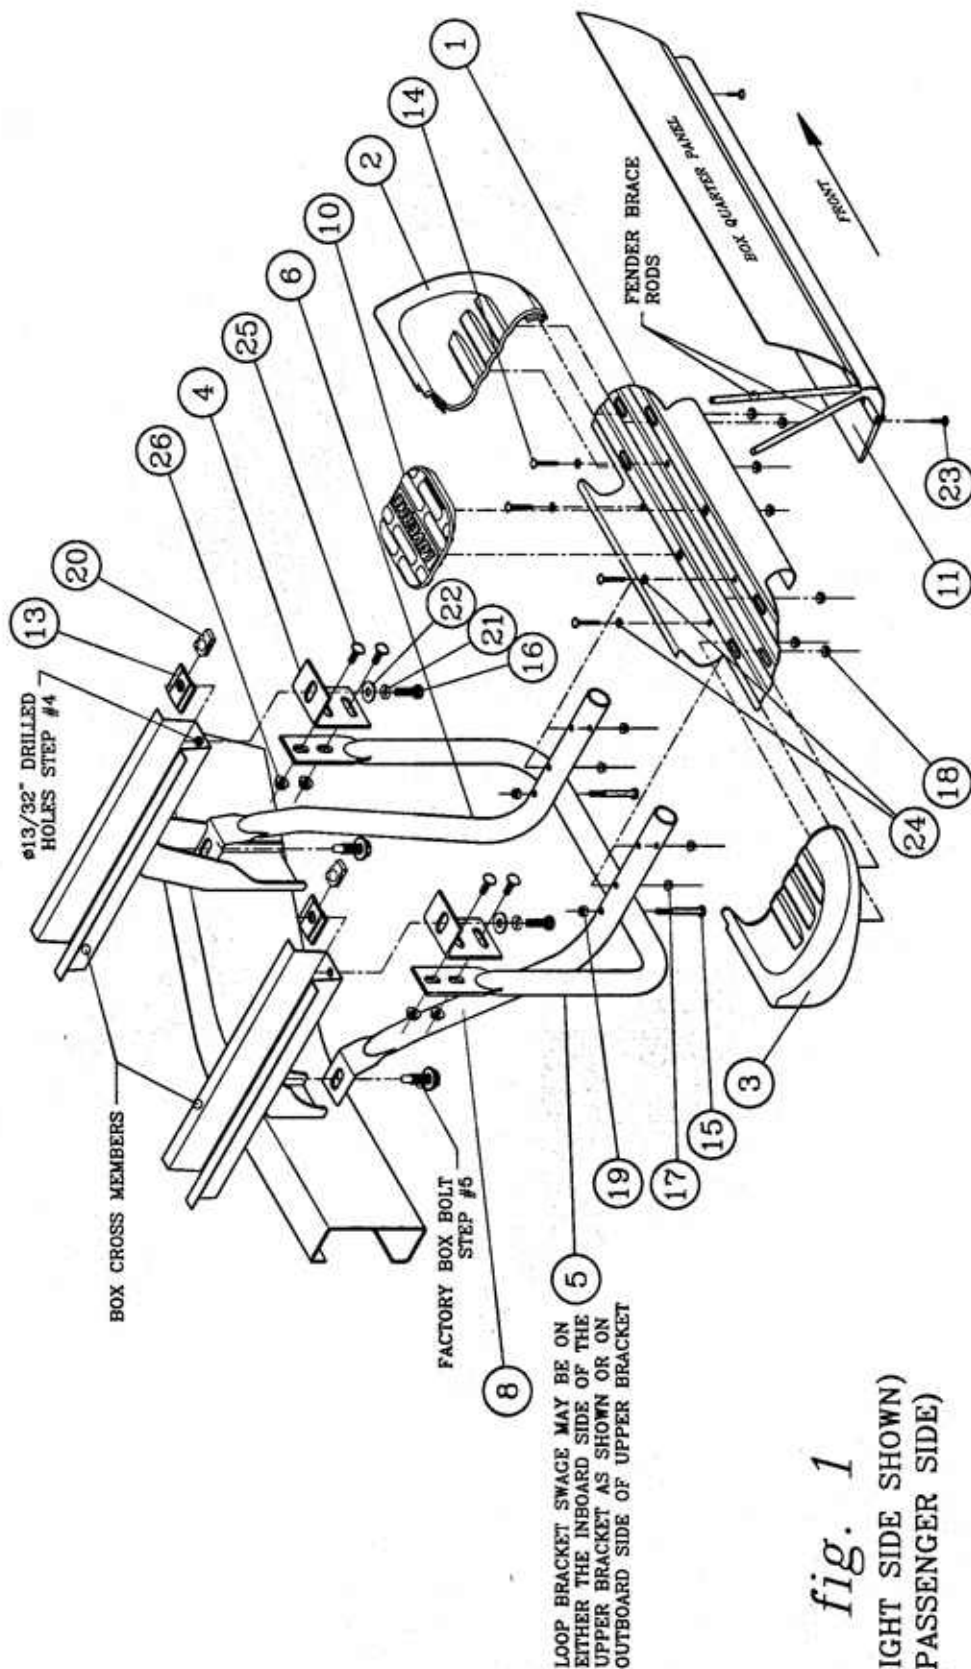
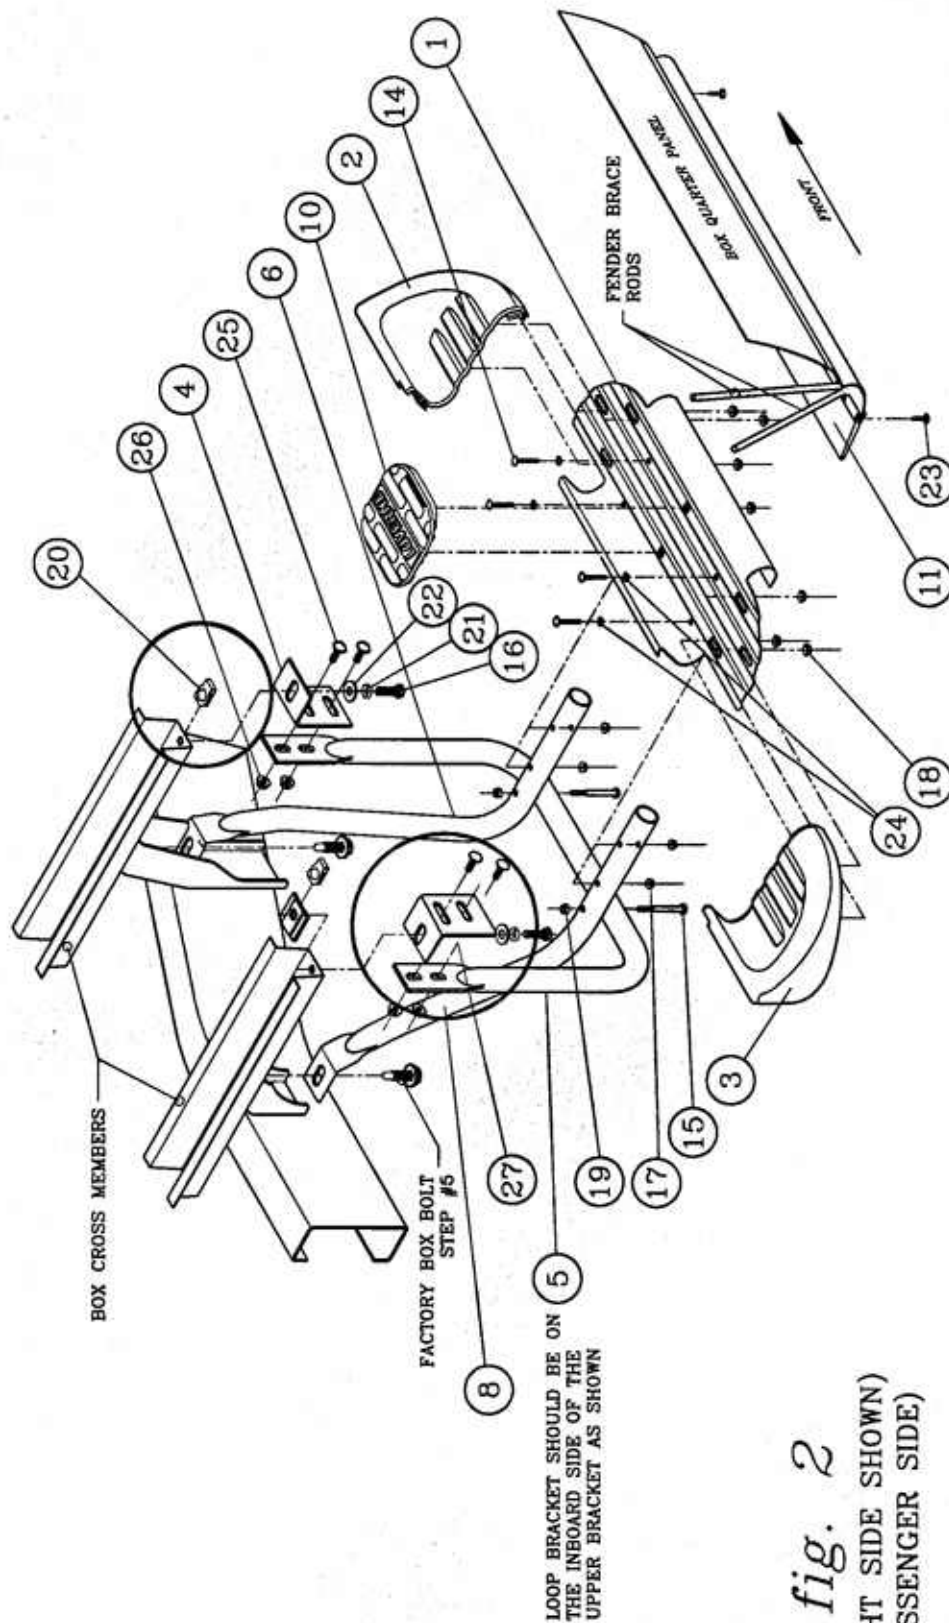

fig. 1
fig. 2
- 3.1 ASSEMBLE THE FRONT AND REAR RIGHT HAND BRACKET TUBES (ITEMS #6 & #8) TO THE BRACKET LOOP (ITEM #5) USING THE ¼-20 X 2-3/4" HEX BOLTS (ITEM #15) AND THE ¼-20 NY-LOCK NUTS (ITEM #19) AS SHOWN IN FIG.1. **[FIG. 2 IS FOR 2007+ VEHICLES]**
- 3.2 ATTACH THE STEP PLATE ASSEMBLY (ASSEMBLED ITEMS #1, #2, #3, #10 & #18) TO THE MOUNTING BRACKET TUBES (ITEMS #6 & #8) USING THE #10-24 X 1-1/2" CARRIAGE BOLTS (ITEM #14), NEOPRENE WASHERS (ITEM #24) AND THE #10-24 FLANGE NUTS (ITEM #17) AS SHOWN IN FIG. 1. **[FIG. 2 IS FOR 2007+ VEHICLES]**
4. MARK THE END OF THE TWO (2) BOX CROSS-MEMBERS IN THE CENTER (1" FROM THE SIDE) AND ½" IN FROM THE END, AND DRILL A 25/64" OR A 13/32" DIAMETER HOLE. SEE FIG. 1.
5. REMOVE THE TWO (2) FACTORY BOLTS THAT SECURE THE BOX TO THE FRAME.
6. ATTACH THE UPPER MOUNTING BRACKETS (ITEM #4) TO THE BOX CROSS-MEMBERS AS FOLLOWS: INSTALL THE 3/8" U-NUTS (ITEM #20) TO THE NUT PLATES (ITEM #13) AND INSERT THEM INTO THE END OF THE BOX CROSS-MEMBER. INSTALL THE 3/8-16 X 1-1/4" HEX BOLTS (ITEM #16), FLAT WASHERS (ITEM #22) AND LOCK WASHERS (ITEM #21) UP THRU THE OBOUND HOLE IN THE MOUNTING BRACKET AND INTO THE U-NUT (ITEM #20). LEAVE THESE FASTENERS FINGER TIGHT. **[FIG. 2 IS FOR 2007+ VEHICLES WHICH WILL NOT REQUIRE ANY DRILLING].** USE BRACKET (ITEM #27) INSTEAD OF (ITEM #4) ON THE REAR APPLICATION.